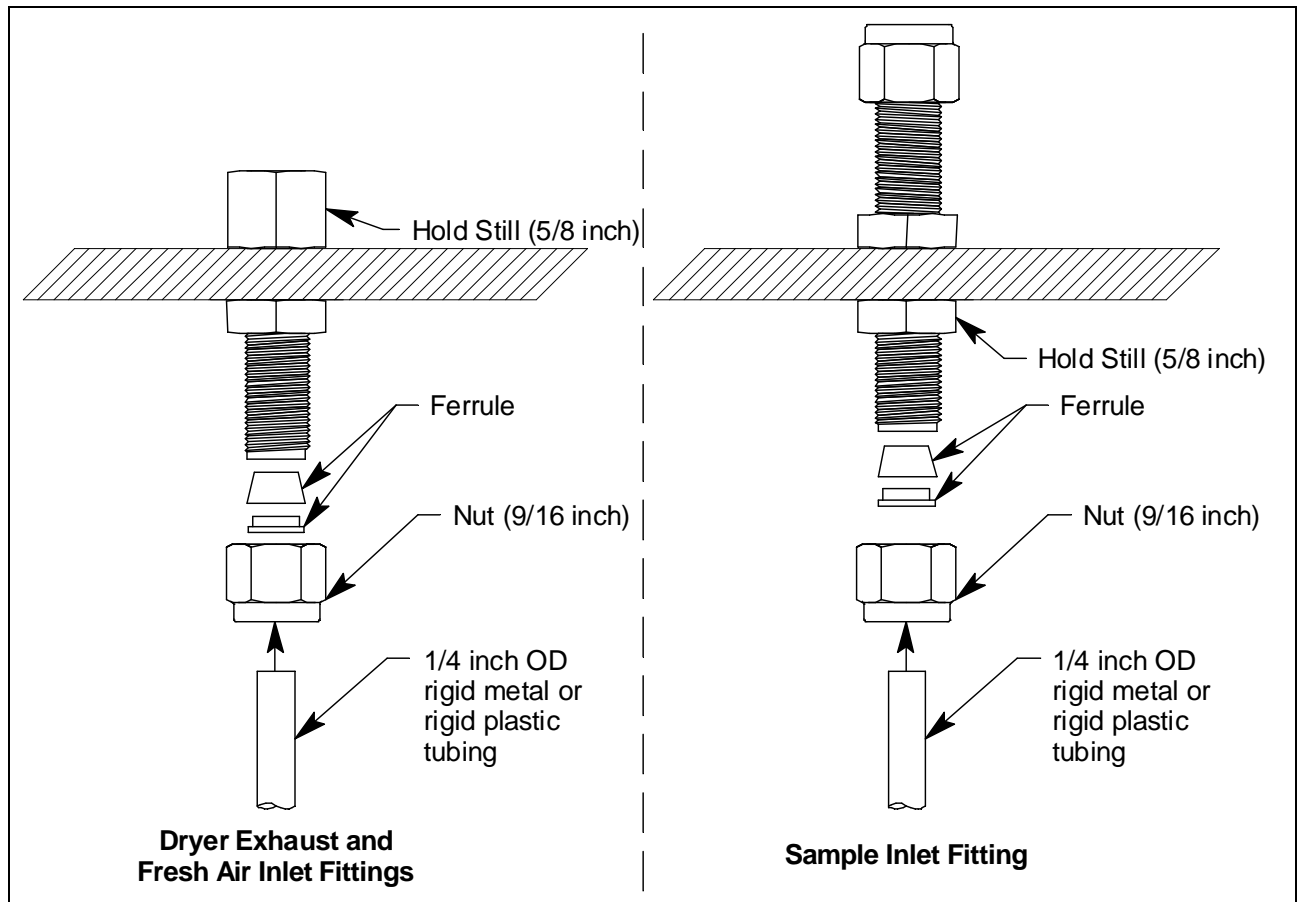

Figure 19: Compressed Fitting Connection
2. Before tightening the nut, be sure to hold the fitting still so it does not rotate using a 5/8 inch open-end wrench or an adjustable wrench. The dryer exhaust and fresh air inlet fittings will have to be held from the inside of the housing while the sample inlet fitting will have to be held from the outside (see Figure 19). While holding the fitting still, firmly tighten the nut with a 9/16 inch open-end wrench or an adjustable wrench so the ferrules crimp onto the sample tubing and make a seal.